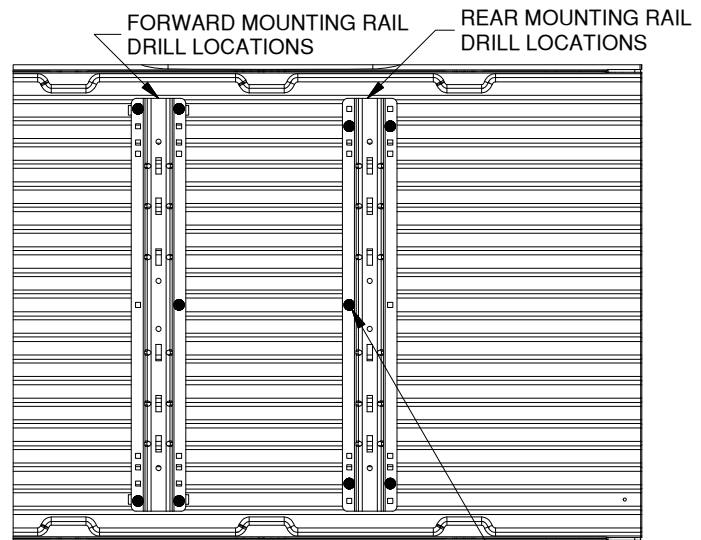

Figure A2: Detail view over bed, showing drill locations for the forward and rear bed rails.
2. **Mark hole locations:** While carefully ensuring the mounting rail does not move, use a center punch tool to mark the 5 drill locations on the rear rail. See figure A2 for hole marking locations for this installation (forward rails will install on a later step). Once all 5 rear rail locations are clearly marked, move the bed rail out of the way and drill each location with an 1/8" drill.
4. **Drill forward mounting holes.** Using the same methods as used for the rear mounting rail, mark, drill, check, and enlarge the holes for the forward mounting rail. Refer to "DRILL REAR MOUNTING HOLES" section, steps 2 through 4, on a previous page. Notice that the hole locations are slightly different than the rear rail, see figure A2 (on the second page).